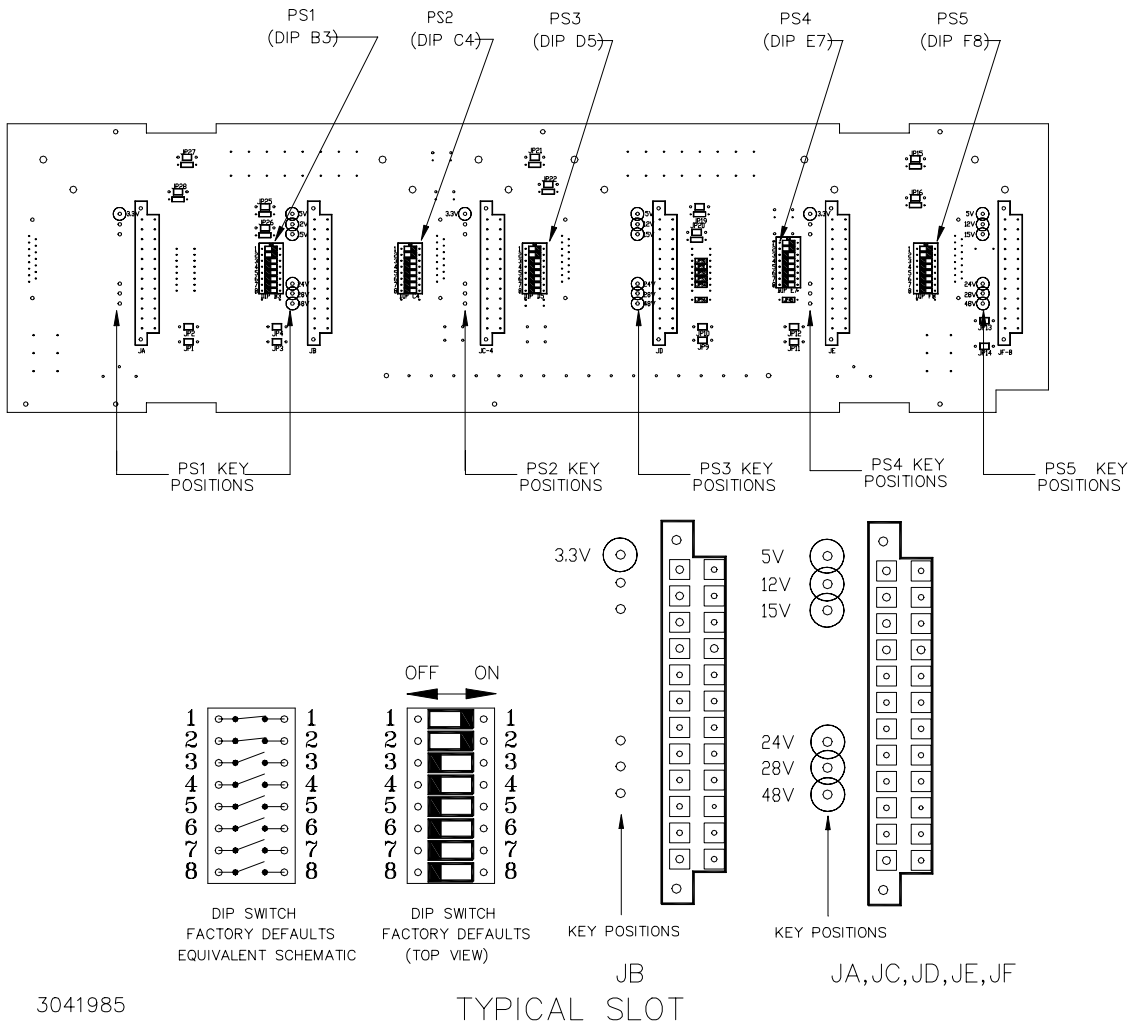
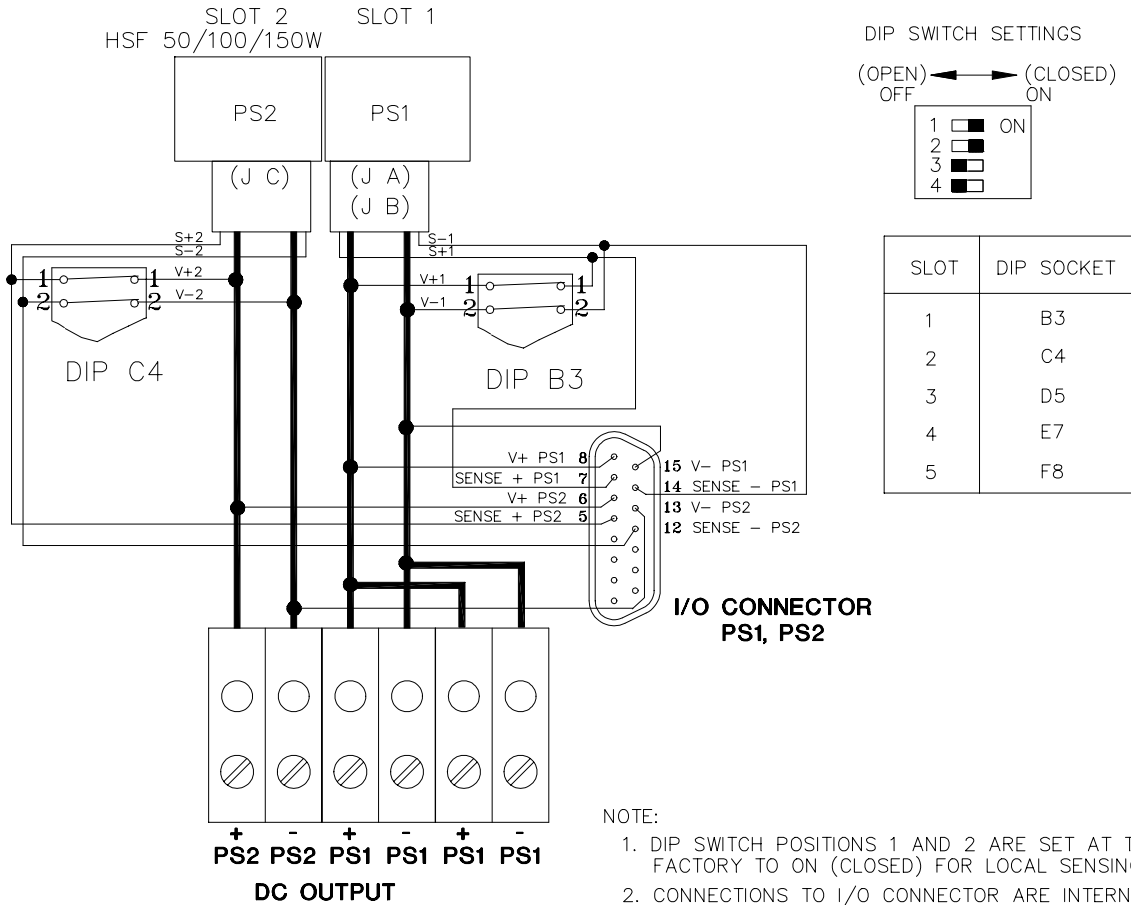

FIGURE 2-1. BACKPLATE ASSEMBLY, INTERIOR VIEW
FIGURE 2-2. INDEPENDENT OPERATION, LOCAL SENSING FOR PS1 AND PS2 USING INTERNAL DIP SWITCHES, SIMPLIFIED DIAGRAM
Series RA 19-(X)B rack adapters incorporate a keying mechanism to prevent accidental insertion of the incorrect model HSF power supply into any position. The HSF power supplies are keyed by voltage at the factory. The keying mechanism will prevent engagement of any of the HSF power supply's connectors with those on the rack adapter's back plate unless the key and keyway align. The user can configure each power supply position of the rack adapter for the desired voltage in the desired position (see Figure 2-1). First gain access to the interior components (PAR.2.3.1), then position the key as required (PAR. 2.3.2).
3. Remove seven screws (three at the top and four at the bottom) securing the back plate to the chassis and remove the back plate to gain access to the interior components (see Figure 2-1)
To establish the keying of any position, simply insert the key pin from the front and secure with mounting nut at the back plate using two ¼" nutdrivers or deep sockets. RA 19-3B backplate assembly keying is identical to the HSF module keying identified in Figure 2-1 and in the HSF operator's manual. **DO NOT ALTER THE KEYING AT THE POWER SUPPLY.**
Configuring slots of the rack adapter for independent, parallel or series operation is accomplished either internally by means of DIP switches associated with each slot (see Figure 2-1), or externally by connecting the appropriate pins of the associated I/O mating connector. DIP switch functions are explained in Table 2-2. Refer to PAR. 2.3.1 to gain access to the DIP switches.
The rack adapter is shipped from the factory with each power supply position configured for local sensing (see Figure 2-2). Sensing for each slot can be configured independently:
The rack adapter slots are preconfigured at the factory for local sensing using internal DIP switches. If a slot has been configured for other than local sensing using DIP switches and it is necessary to reconfigure a slot for local sensing, simply set positions 1 and 2 of the DIP switch associated with that slot to ON (closed). External sensing connections must be removed. When set to ON (closed) DIP switch position 1 connects (V+) to (S+) and position 2 connects (V-) to (S-). See Figure 2-1 for DIP switch locations. Figure 2-2 illustrates local sensing of PS1 and PS2 by setting positions 1 and 2 of internal DIP switches B3 and C4 to ON (closed); positions 3 and 4 must be set to OFF (open). Position 5 (current share) must be set to OFF and positions 6, 7, and 8 (alarms) can be configured per PAR. 2.4.4.
External local sensing is accomplished by connecting (V+) to (S+) and (V-) to (S-). This can be done at either the mating I/O connector supplied (see Table 2-1) or the DC OUTPUT terminal block. See Figure 2-1 for DIP socket locations. Figure 1-2 illustrates I/O connector pin assignments. Figure 2-3 illustrates local sensing of PS1 and PS2 using external jumpers connected to the I/O mating connector.
To connect the current share lines locate DIP switches *between* the parallel-connected supplies (see Figure 2-1) and set position 5 to ON (closed). Isolate the parallel group by locating the DIP switches at both ends of the group and set positions 3 through 5 to OFF (open); refer to PAR. 2.4.2.3 for instructions on setting positions 3 and 4 for parallel connections. For example to connect PS3, PS4 and PS5 in parallel, set DIP switches E7 and F8 position 3, 4, 5, to ON (closed) (see Figure 2-5). set DIP switch D5, positions 1 through 5 to OFF (open) (positions 1-2 of D5 must be OFF for parallel configurations and positions 3-5 isolate the parallel group).
For both local and remote sensing Positions 1 and 2 of *each* DIP switch in the parallel configuration must be set to OFF (open); refer to Figure 2-1 to identify the DIP switch associated with a corresponding slot.
1. For each supply in parallel set DIP switch positions 1 and 2 to OFF (open) (see Figure 2-1).
2. For each DIP switch between parallel-connected slots (D5, E7 and F8), set DIP switch positions 3 and 4 to ON (closed) to connect sense leads in parallel (see Figure 2-1).
4. Locate DIP switch(es) at both ends of the parallel group and set positions 3, 4, and 5 to OFF (open) to isolate the group. (see Figure 2-1).